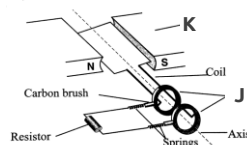

Figure 0
2. Describe how a DC generator works. (4)
4. Name any **two** uses of an AC generator . (2)
5. **Figure 0** below shows an illustration of a generator. Use it to answer questions that follow